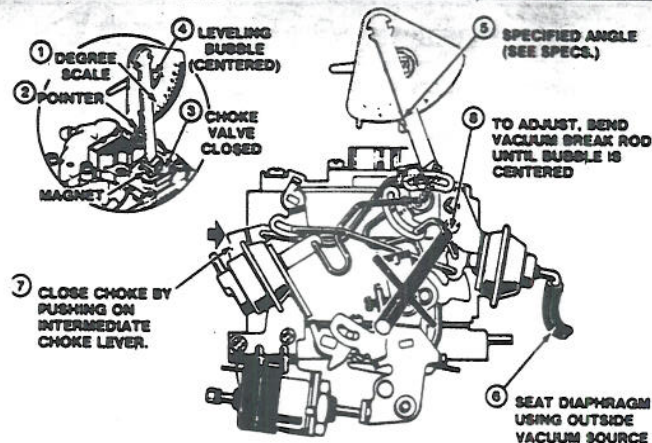

Fig. 12 Primary vacuum break adjustment. 1981 2SE carburetor
1. Rotate degree scale until zero is opposite pointer, then with choke valve completely closed, place magnet on top of choke valve and rotate bubble until centered, Fig. 12.